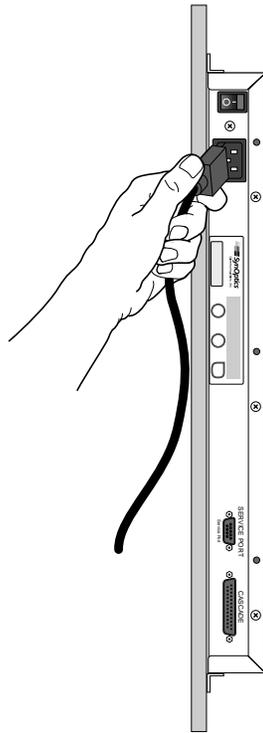

Figure 2-14. Connecting Power Cord
- 4. Connect the power cord, first to the power entry receptacle and then to the wall outlet (see Figure 2-14).**